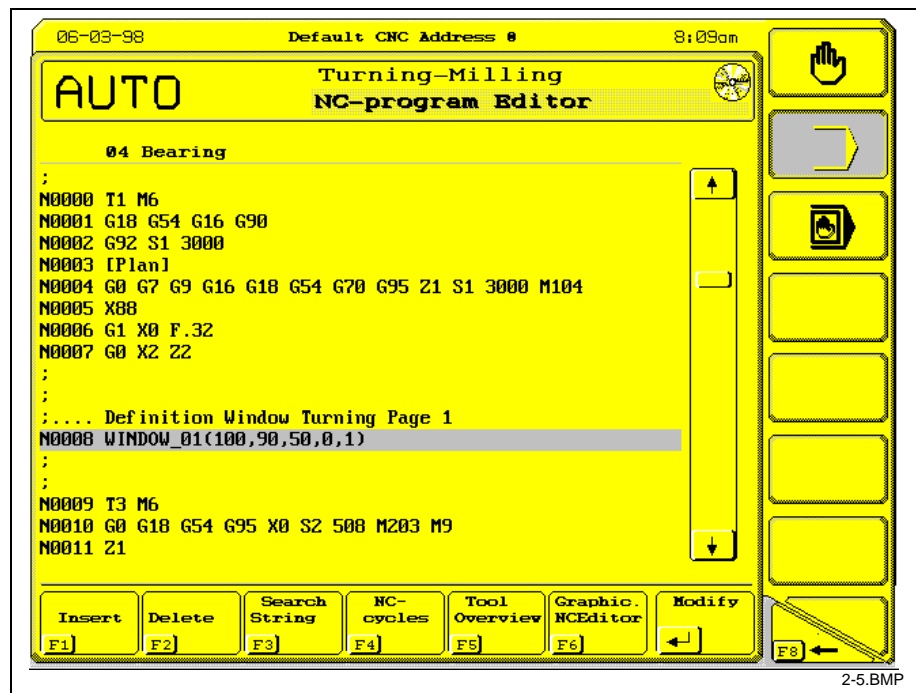

Fig. 2-5: Modifying a Window instruction
- Single-line instructions** In case of a „WINDOW_“ (see Fig. 2-5) or „CYCLE_“, „FORM_“, or „COPY_“ instruction, the instruction's active parameter are accepted in the conversational screens.